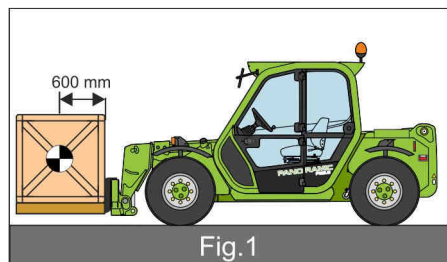

Fig.1
Before lifting a load, its weight and centre of gravity need to be found out. Remember that the centre of gravity of a load on the forks is calculated at 600mm from the heel of the fork. (Fig.1)
- roof rotating flashing beacon (figure 1)